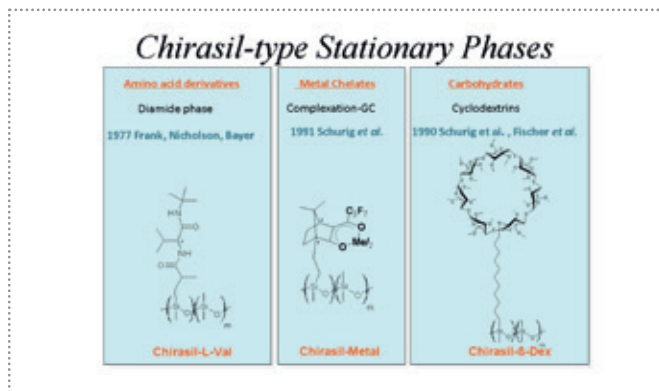

Figure 2. Development of Chiralil-type stationary phases for enantiomeric separations by GC.
(see Figure 2) thus combining the enantioselectivity of valine with the universal gas chromatographic properties of liquid silicones. On the CSP Chirasil-L-Val (coated on an 18 m x 0.3 mm ID glass capillary column) 17 proteinogenic α -amino acids could be simultaneously enantioseparated as N-pentafluoropropanoyl-O-isopropyl esters in less than 30 min (13). All L-amino acids are eluted as the second fraction, but the elution order can be reversed by employing Chirasil-D-Val. Chirasil-Metal (see Figure 2, middle) can be used as the CSP in GC and supercritical fluid chromatography (SFC) (14).
In Chirasil- β -Dex, permethylated β -cyclodextrin is chemically bonded via an octamethylene spacer on polydimethylsiloxane (see Figure 2, right) (14). Its temperature range extends from -10°C to 250°C . One single column (80 cm x 0.5 mm ID) coated with thermally immobilized Chirasil- β -Dex can alternatively be